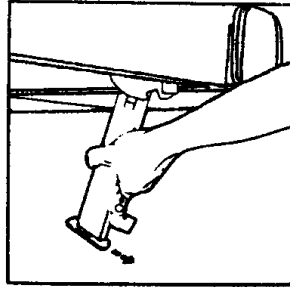

FIG. 5
15. There are four stabilizer jacks, one under each corner of the trailer. To release from the locked traveling position, reach under the corner and firmly grasp the stabilizer jack, push it towards the center of the trailer (approximately 1/2") and pull down until the stabilizer jacks lock into place in the lowered position. (See Figure 5.)